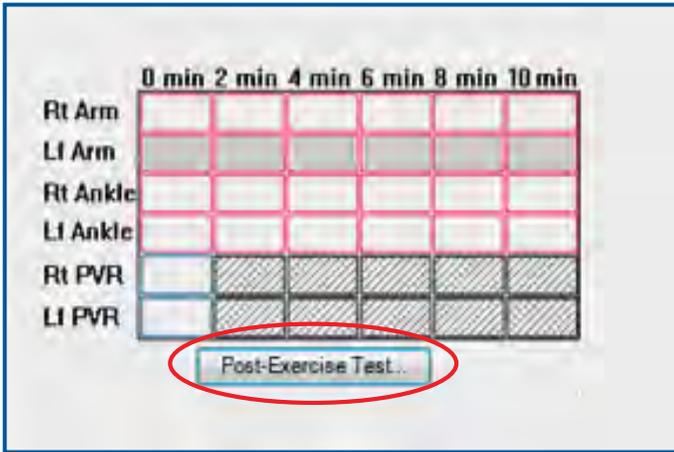

FIGURE 1.29 - “Post Exercise Test...” Button
37. After at-rest ABI values and PVR waveforms are recorded, click “Post-Exercise Test...” from the Test Summary screen (Figure 1.29).